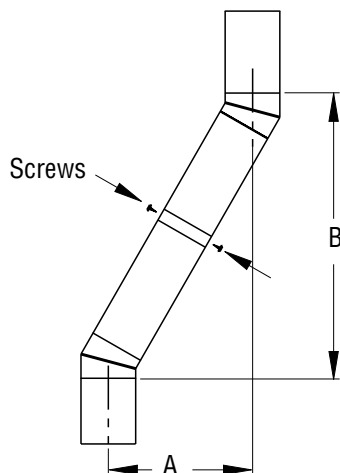

Figure 12 - Elbow Offset
Continue to assemble chimney sections as outlined, making sure that both inner and outer pipe sections are locked together. When installing double wall snap-lock chimney together, it is important to assure joint between chimney sections is locked. Check by pulling chimney upward after locking. Chimney will not come apart if properly locked. It is not necessary to add screws to keep chimney together (exception - see **Figure 12, Page 10**).
4. All pipe connections between offset and return must be secured with two screws on outer pipe only (see **Figure 12, Page 10**). Do not penetrate inner stainless.